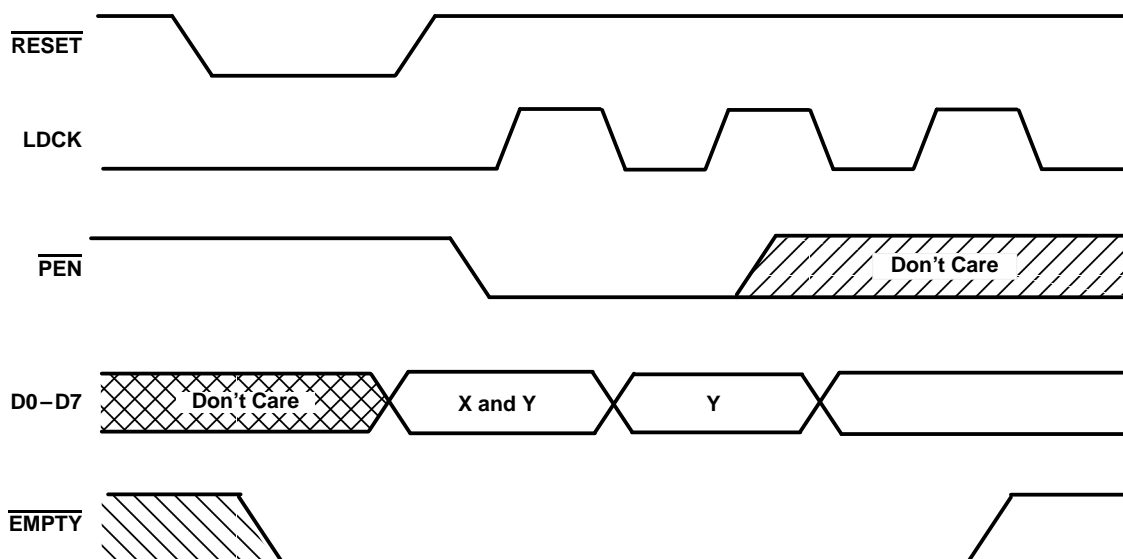

Figure 1. Programming X and Y Separately
To program the offset values,  $\overline{\text{PEN}}$  can be brought low after reset only when LDCK is low. On the following low-to-high transition of LDCK, the binary value on D0–D7 is stored as the almost-empty offset value (X) and the almost-full offset value (Y). Holding  $\overline{\text{PEN}}$  low for another low-to-high transition of LDCK reprograms Y to the binary value on D0–D7 at the time of the second LDCK low-to-high transition. Writes to the FIFO memory are disabled while the offsets are programmed. A maximum value of 255 can be programmed for either X or Y (see Figure 1). To use the default values of X = Y = 64,  $\overline{\text{PEN}}$  must be held high.